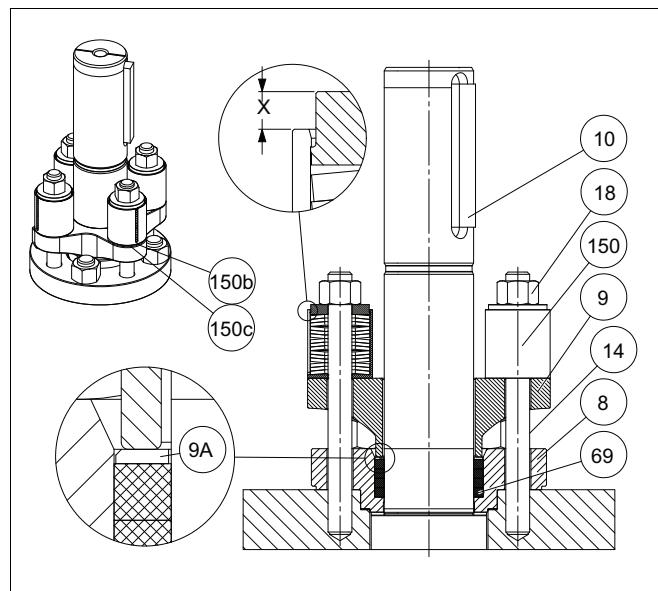

Fig. 9 Gland packing
- Remove the key (10).
- Remove the nuts (18), the disc spring sets (150), washers 150B, anti static springs (150C), the gland (9), and anti extrusion ring (9A).
- Remove old packing rings (69). Do not damage the surfaces of the packing ring counterbore and shaft.
- Place the new packing rings (69) over the shaft (5). The gland (9) may be used for pushing the rings into the counterbore. Do not damage packing rings in the shaft keyway.
- Install Washers (150B), anti static springs (150C) in opposite side studs (14)
- Pre-compress the packing rings first by tightening the gland with disc springs (150) to the height X. See Fig. 9 and the value from Table 1.